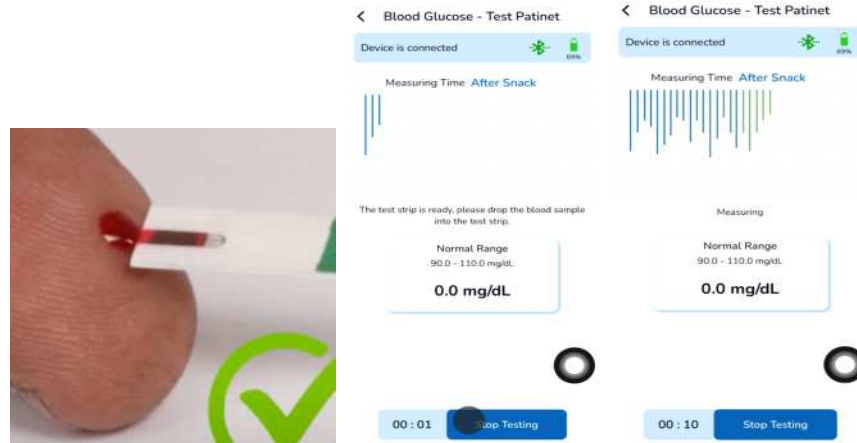

Fig. 17 Blood Application on Test Strip and Glucose Test patient screen
3. A small amount of blood is drawn until the sample window fills (see Fig. 17). Then, the "Measuring" message is displayed on the test screen. The patient's finger can be removed now